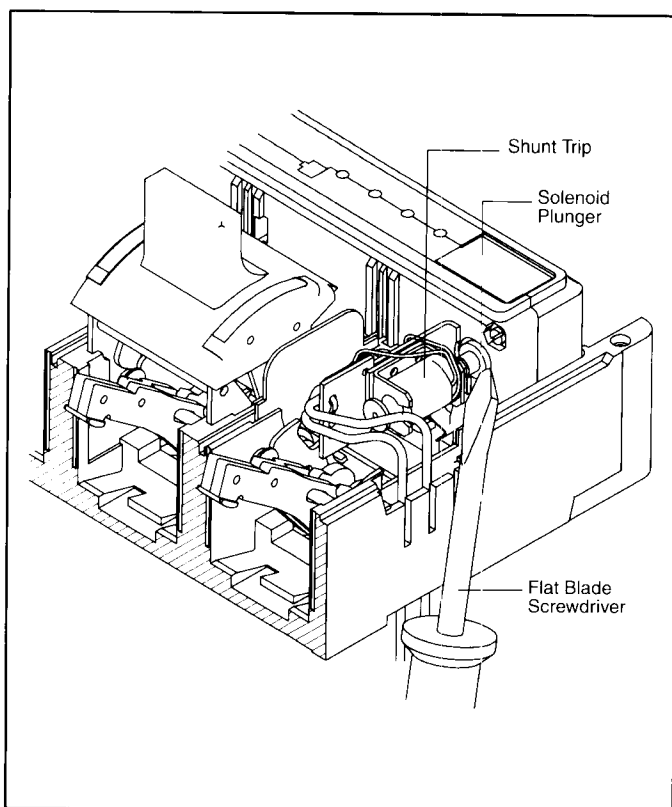

Fig. 2-4 Screwdriver Depressing Shunt Trip Solenoid Plunger
- b. Using a small flat-blade screwdriver, depress solenoid plunger (Fig. 2-4). Circuit breaker should move to trip position.